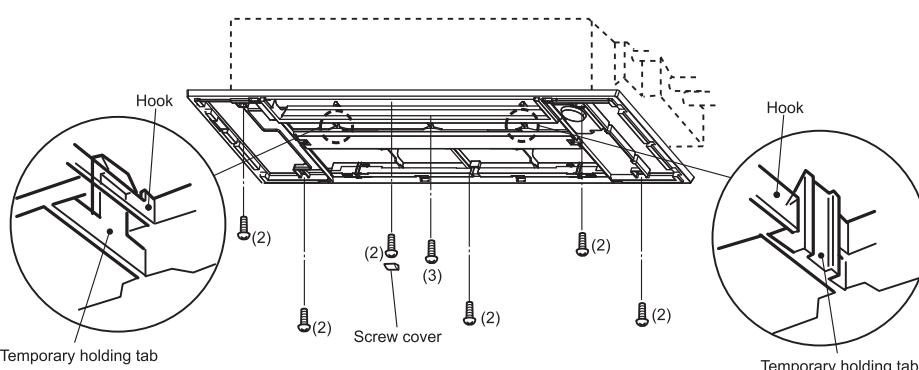

Fig. 5
5. Attach the temporary holding tabs on the grille to the hooks on the indoor unit. (Fig. 5)
7. Loosely install the 4 fixing screws (2) near the corners. (Fig. 5)